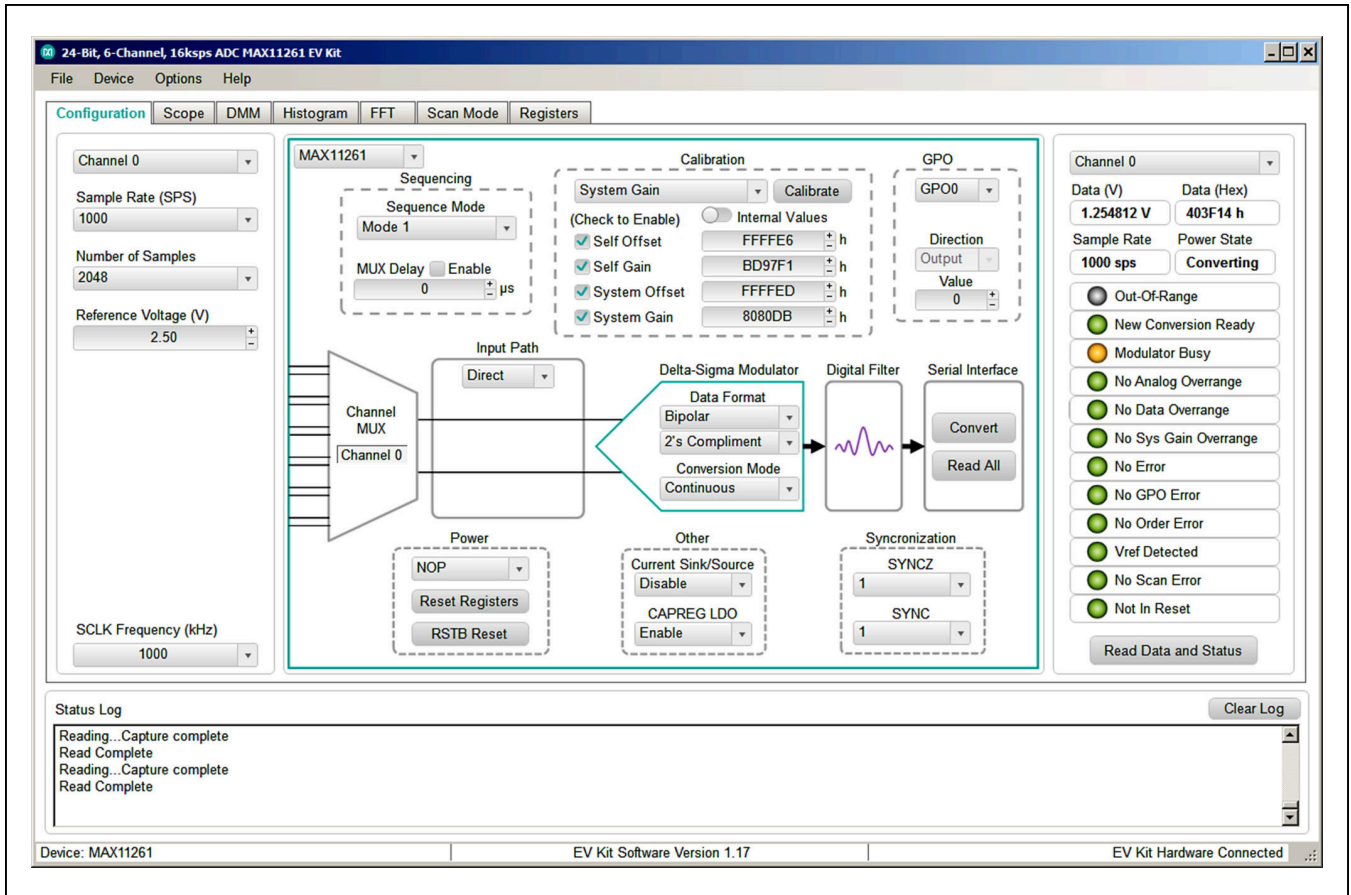

Figure 1. MAX11261 EV Kit Configuration Window
- 5) In the center of the **Configuration** tab, inside the **Delta-Sigma Modulator** block, set **Conversion Mode to Single Continuous** and then click **Convert** and **Read All**. The status will be updated with the measurement data. See Figure 1.